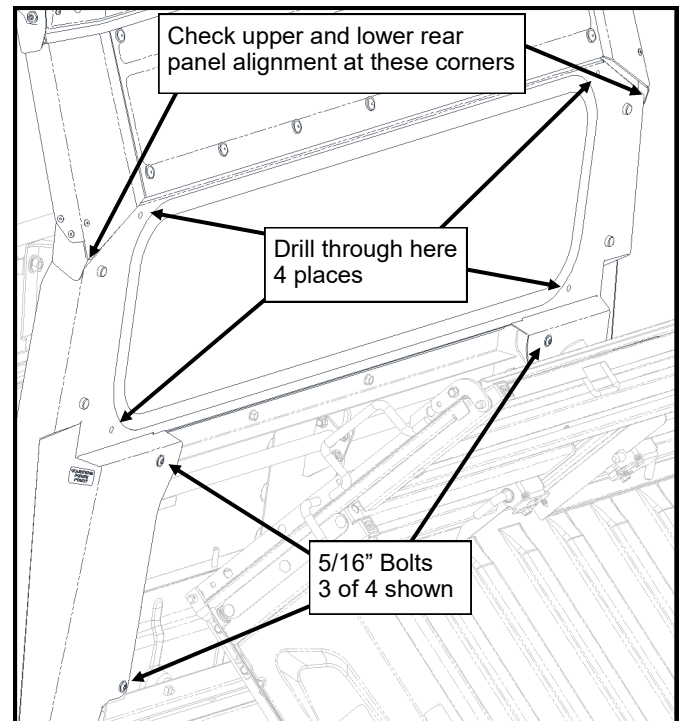

Figure 10.2: Lower Rear Panel
- 10.2 Shift the lower panel and rear seat back left or right as needed to center it under the upper rear panel. (see Figure 10.2). If more movement of the lower panel is needed, loosen the four 5/16" lower bolts and shift the lower rear panel left or right. Tighten the bolts snug.
- 10.3 Using the holes in the upper portion of the lower rear panel as a guide, drill four 11/32" holes through the screen frame of the rear seat (see Figure 10.2).